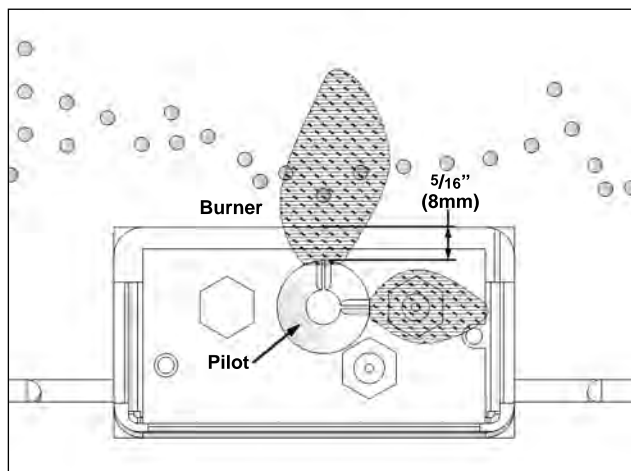

Figure 60: Relationship between ignitor and burner.
24. Check the pilot flame that it is the correct size and orientation. The pilot flame can be adjusted with the adjustment provision on the front face of the valve. This is located just up and to the left of the regulator motor. It is clearly marked on the valve. Adjusting the screw in or out will raise or lower the pilot flame height. The correct pilot flame should resemble Figure 60.